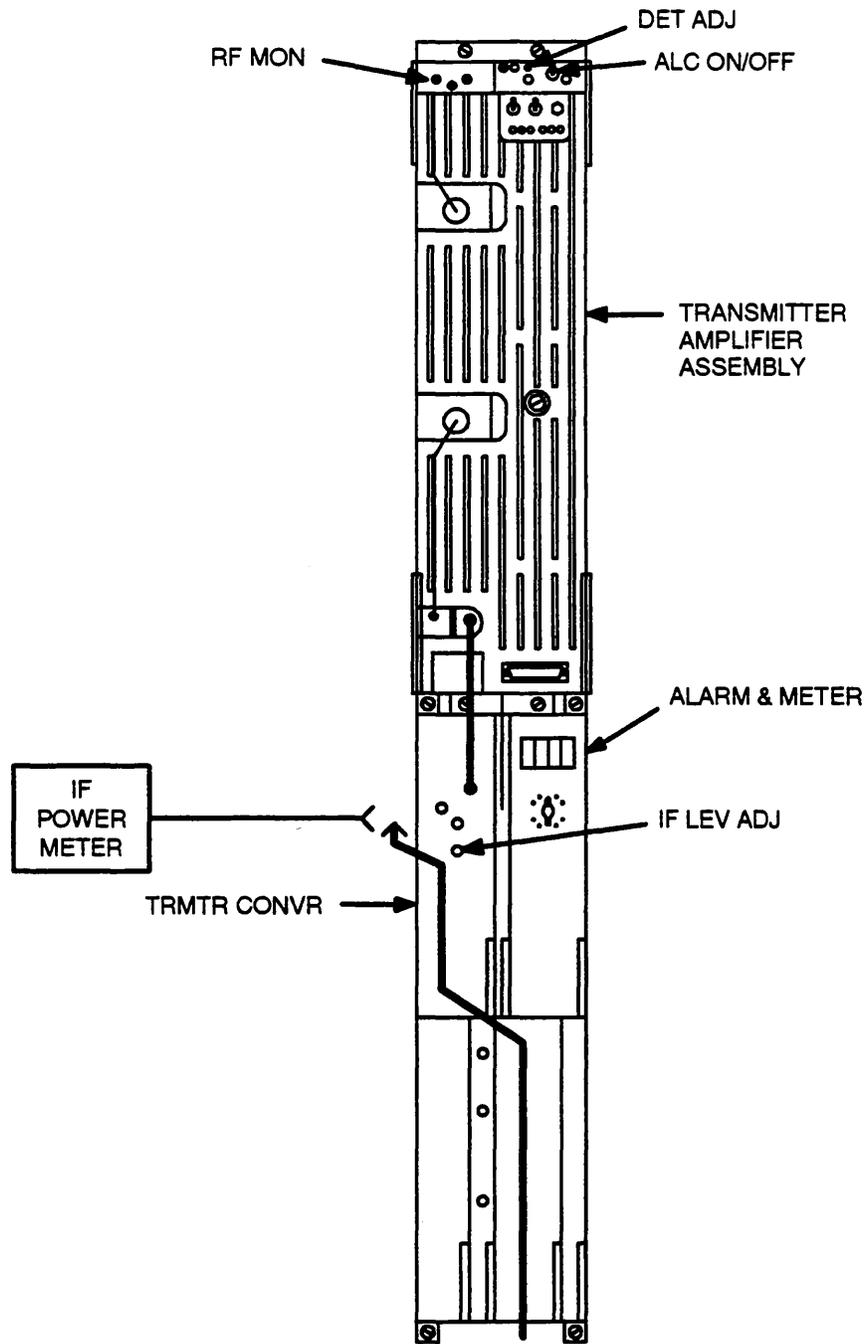

Figure 4- Transmitter Converter IF Input Test Connections Without IF Predistorer
- Refer to Figure 4.
4. Condition the power meter to measure the expected power level (normally -8.2 dBm), and connect it to the free end of the cable (Figure 4).